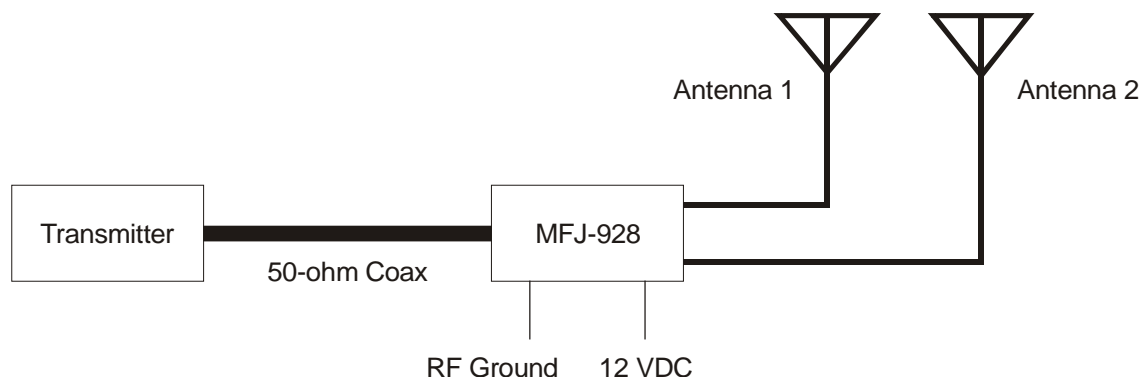

Figure 1. Installation Block Diagram.
| Figure 1. Installation Block Diagram..... | 3 |
2. Install the tuner between the transmitter and the antenna. Use a 50-ohm coaxial cable (such as RG-58) to connect the transmitter (or amplifier) to the connector marked TRANSMITTER on the rear of the tuner. See Figure 1 on page 3.